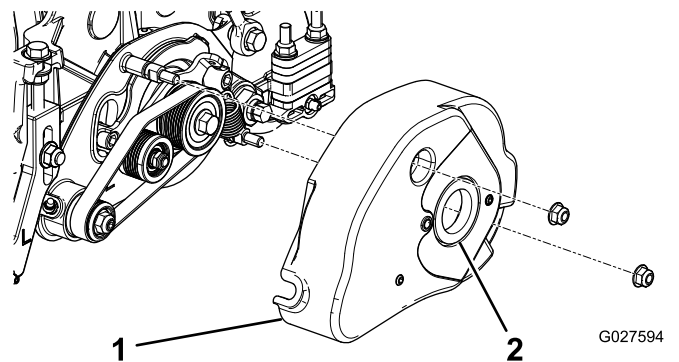

Figure 4
7. Install the groomer cover and secure it with the 2 flange nuts previously removed (Figure 4).
8. Apply grease to the inside diameter of the grommet in the groomer cover (Figure 4).